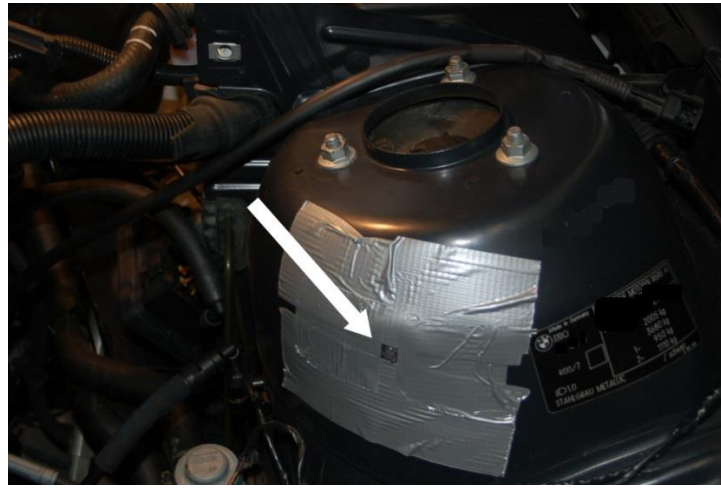

Figure 15
32. Remove the threaded bolt from the strut of the vehicle (only E46). Tape the strut to protect the area around the pin while cutting. Then seal the bare spot with paint pen in car color Figure 15.